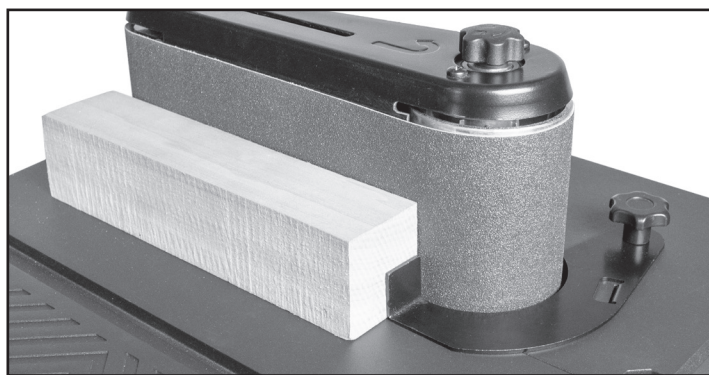

FIG. 13
2. Use both hands to securely hold a workpiece against the belt. For straight line sanding you can use the Limiting Plate as a guide. The upturned end of this plate will act as a 'stop' for your work when sanding. It can be removed if needed for sanding long work pieces. FIG. 13.